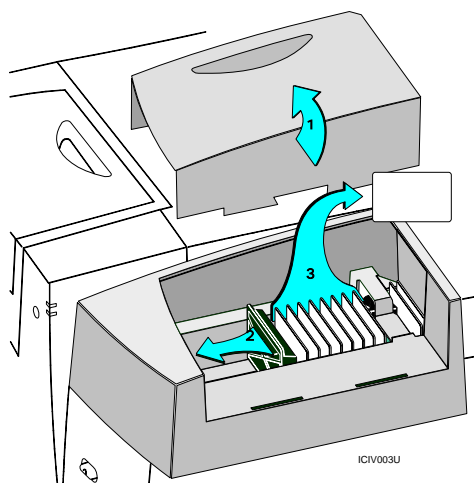

Figure 5-7: Remove completed cards
- 1 If the printer has a lock, unlock the printer. Lift the output tray cover and set aside (step 1 in Figure 5-7).
- 2 Hold the card output tray and pull back on the card pusher. Lock it in the notch on the bottom of the output tray (step 2 in Figure 5-7).
- 3 Lift cards from the output tray (step 3 in Figure 5-7).